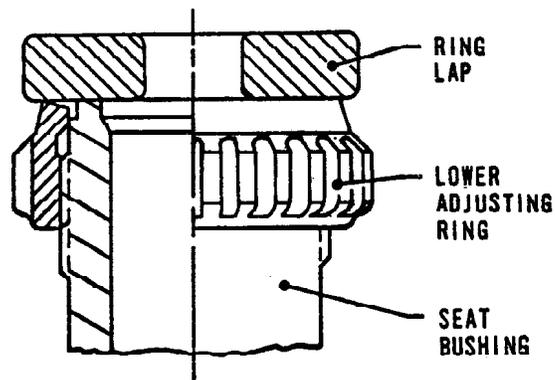

FIGURE 28
For a valve set pressure of 1200 psig (82.76 bar), the ring will have to be lowered two (2) notches below the bushing seat. This will be the starting position, with the final position being determined during field testing (see Figure 28, below).